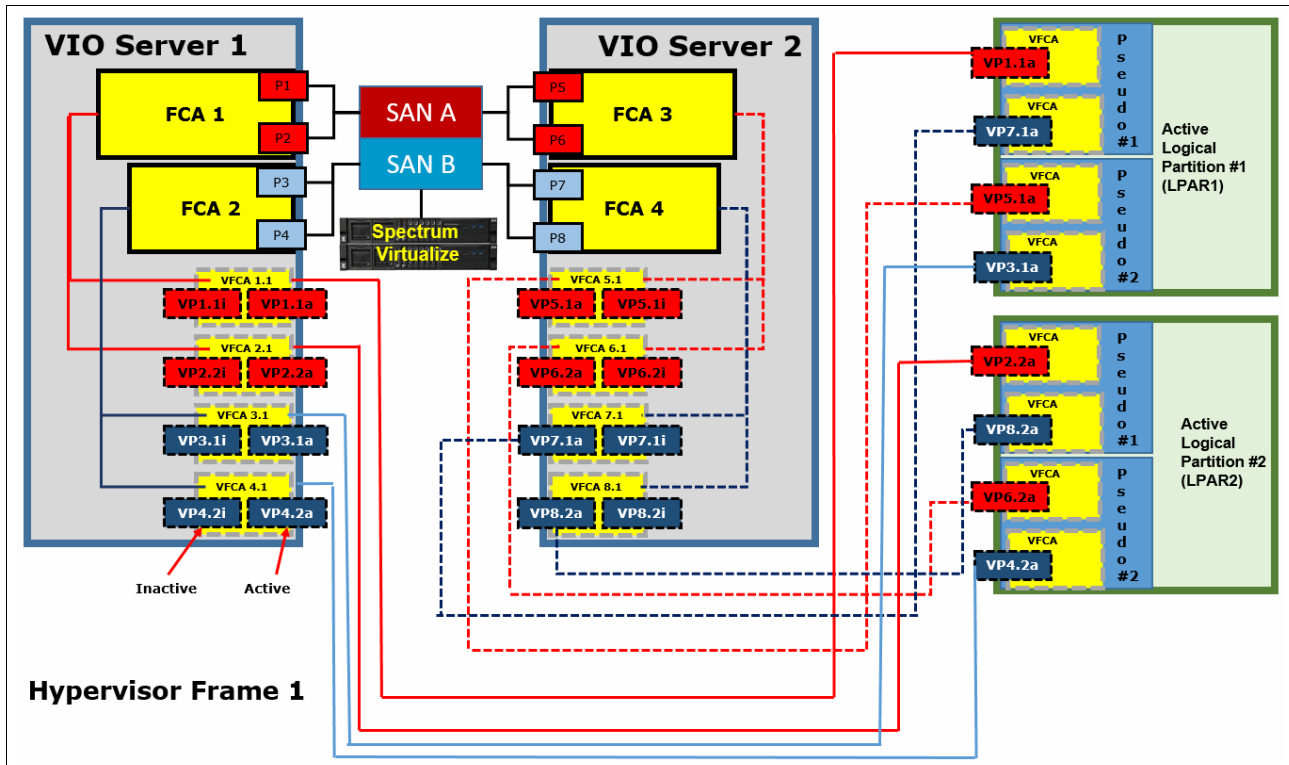

Figure 1-32 LPARs SAN connections
- ▶ Create a pseudo host in IBM Spectrum Virtualize/Storage host definitions that contain only two virtual WWPNs, one from each fabric as shown in Figure 1-32.
Figure 1-32 shows a correct SAN connection and zoning for LPARs.